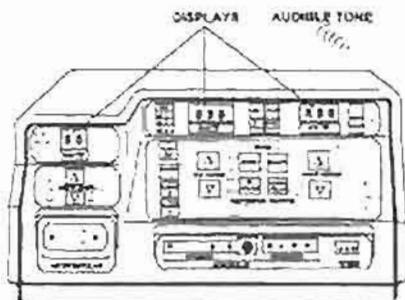
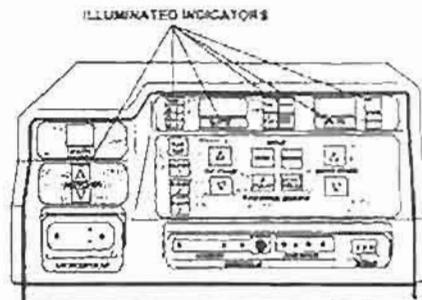

Figure 4-20. Self-test displays.
Figure 4-21. Self-test illuminated indicators.
- c. Observe the control panel. The following control panel actions will automatically occur (fig 4-20 and fig 4-21).
- (1) An audible tone momentarily sounds.
- (2) The three digital displays show "8"s.
- (3) All 13 indicators illuminate.